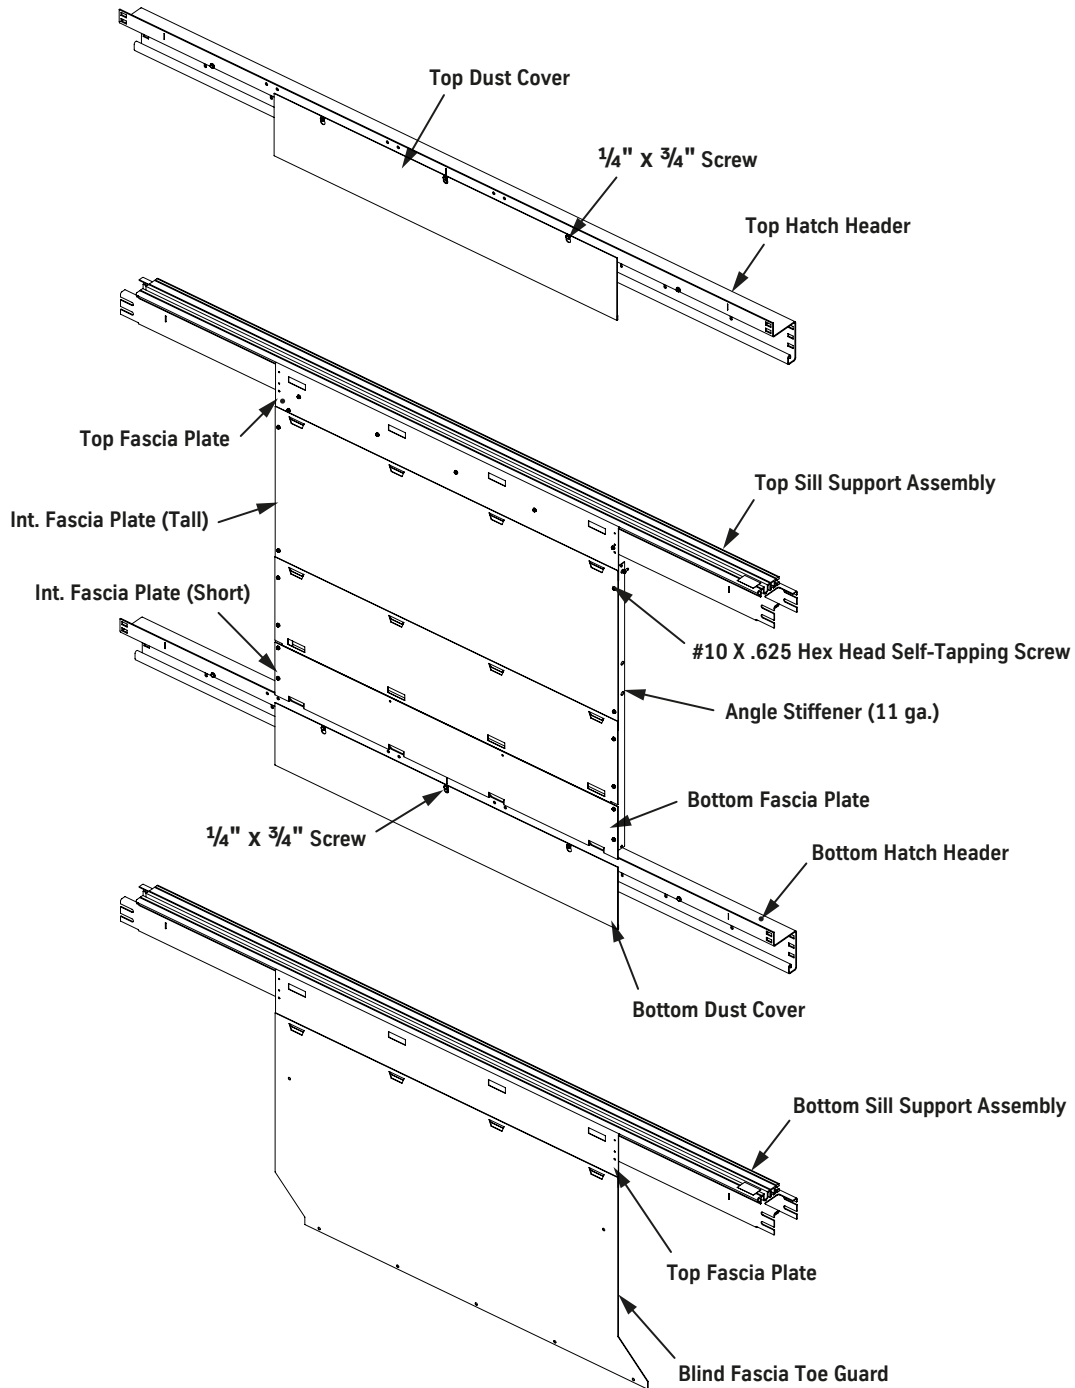

Figure 71- Install Fascia Plates, Dust Covers, and Toe Guards (1 of 3)
2. Center a top fascia plate in the opening, and hook the fascia plate onto the hoistway sill of the top landing. See Figure 71 on page 7-81 through Figure 73 on page 7-83.